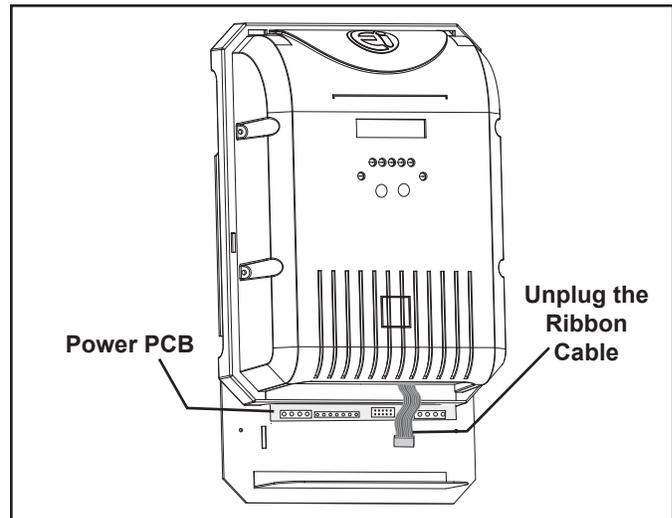

Figure 3. Unplug Ribbon Cable
3. Remove the screws attaching the cover to the back plate and prop the cover up to expose the terminals. Unplug the ribbon cable from the Power PCB (see Figure 3).
4. Remove the screws attaching the cover to the back plate and prop the cover up to expose the terminals (see Figure 3).
3. Remove the screws attaching the cover to the back plate and prop the cover up to expose the terminals (see Figure 3).